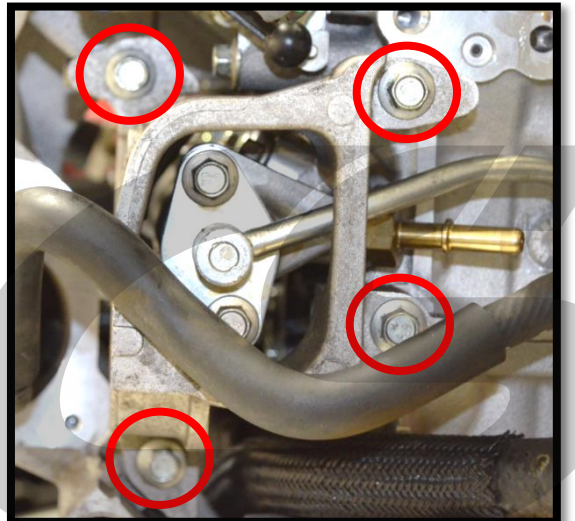

Figure 2h
- k) Remove the fuel rail shield by removing the four 10mm bolts using a socket and ratchet. Shown **circled in red** in **Figure 2h**.